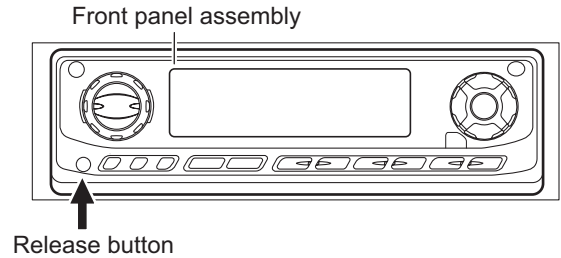

Fig.1
3.1.1 Removing the front panel assembly (See Fig.1)
Prior to performing the following procedures, turn the mode gear on the bottom of the body until the respective part comes to the EJECT position (Refer to Fig.1).